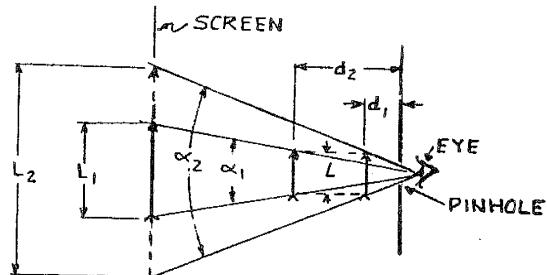

Fig. 1 Visual angle.
Referring to Fig. 1, the visual angle (α) subtended by an object of length (L) is placed as shown diagrammatically in this figure. The image of the object appears on the "screen" representing the retina of the eye. If the least distance can be further reduced, as from (d_2) to (d_1), the visual angle will increase, resulting in an increase in size of the image on the retina.